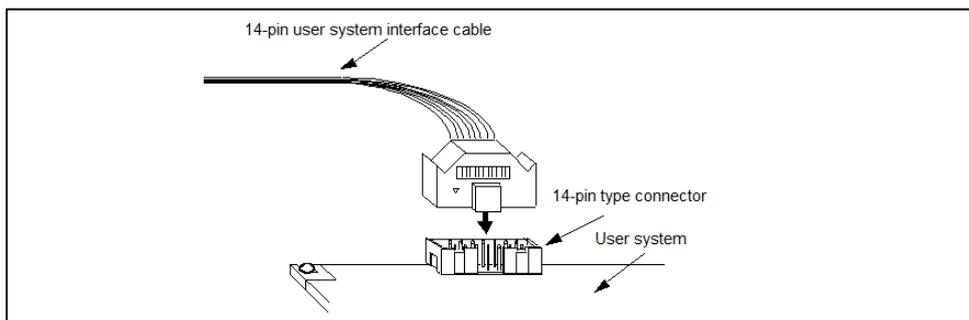

Figure 2-2 Connecting the User System Interface Cable to the 14-pin Connector in the E1 Emulator
Figure 2-2 shows an example of the connection of the user system interface cable of an E1 emulator to a 14-pin connector.
- Note 2: Pulling up of JP0\_0 is only necessary if you are using the 1-pin LPD interface. If you are not using 1-pin LPD, make the connections shown in Figure 2-2.